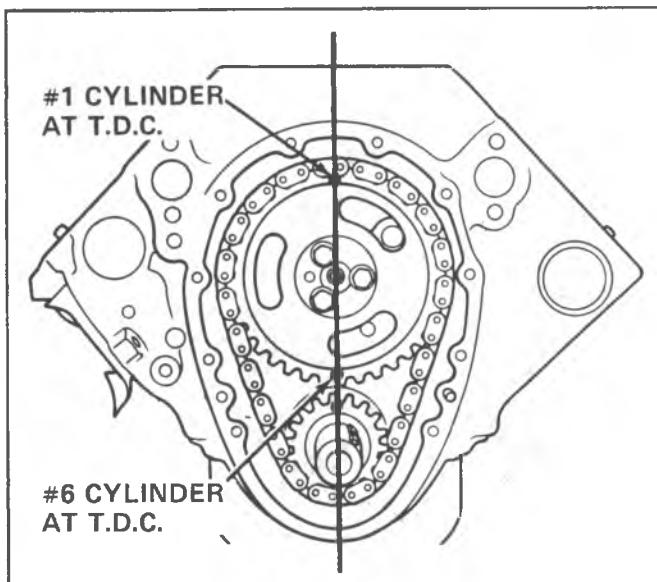

Fig. 6A4-35--Camshaft Sprocket Alignment Marks
6. Install two 5/16" - 18 x 4" bolts in camshaft bolt holes then remove camshaft (fig. 6A4-34).